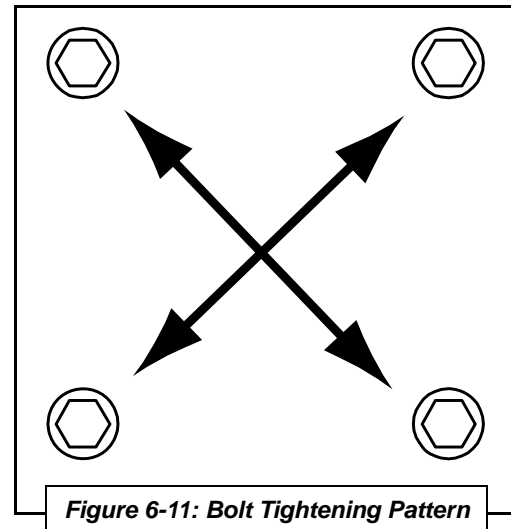

Figure 6-11: Bolt Tightening Pattern
16. Fasten compressor cover [R] to compressor body using the four (4) pan head screws [Q]. Tighten bolt pairs evenly in a criss-cross pattern (**Figure 6-11**).